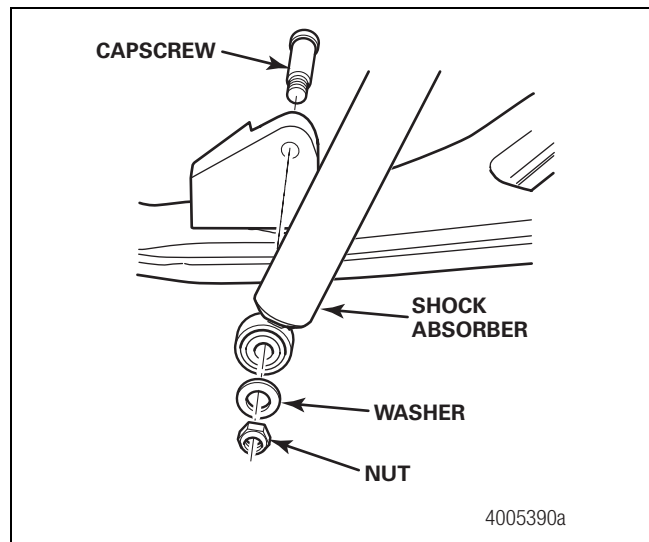

Figure 7.17
2. Install the lower shock absorber shoulder bolt, nut and washer. Tighten the nut to 270-350 lb-ft (366-474 N•m). Figure 7.17.